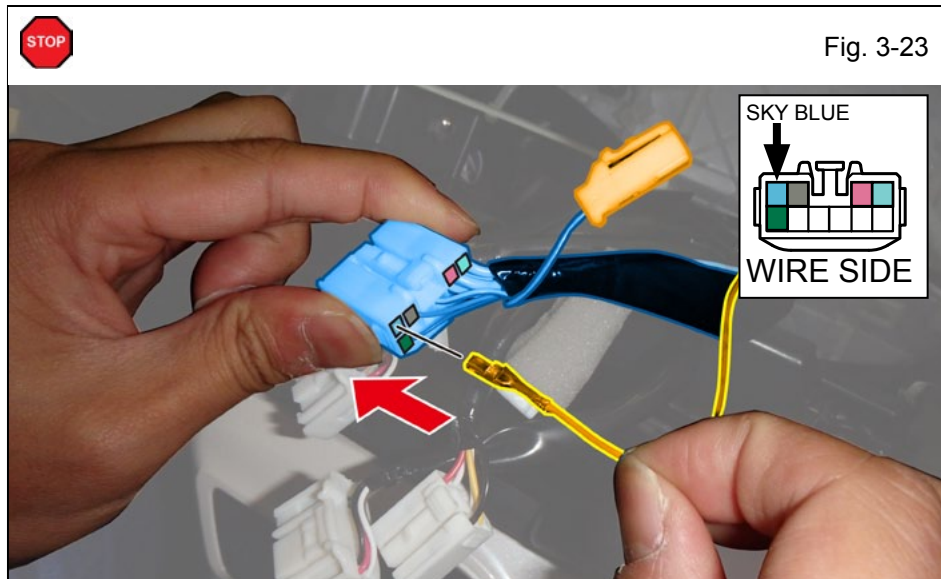

Fig. 3-23
af. Insert the V5 Sky Blue Wire Terminal into the indicated location on the 10P Vehicle Connector. (Fig. 3-23)
**CAUTION:** Do not insert the V5 Sky Blue Terminal into the White and Blue Wire Terminal on the opposite side of the connector. (Fig. 3-23)
**VERIFY:** Terminal Pins are properly inserted and do not come out. (Fig. 3-23)